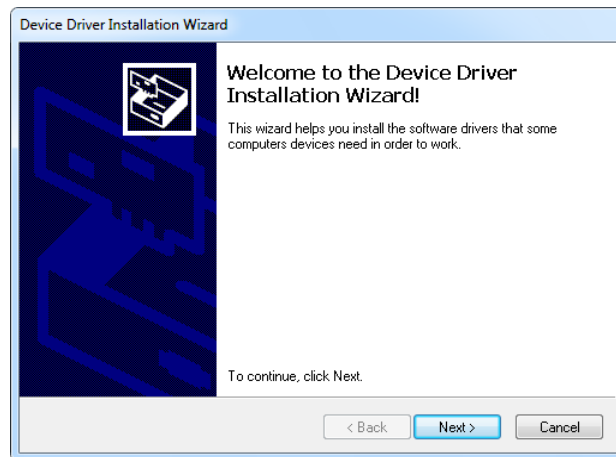

Fig. 5-7 Start the installation process
4. Click **Next** (Fig. 5-7) and follow the installation instructions.